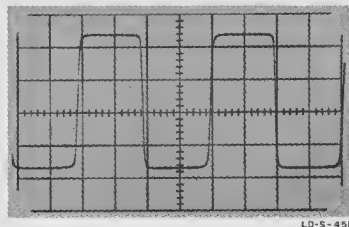

Figure 5-2. Approximate Chopper Waveform
- i. Waveform should be similar to that shown in figure 5-2, and should have a peak-to-peak amplitude approximately equal to the deflection found in step g. Signal frequency should be 5/6 line frequency.